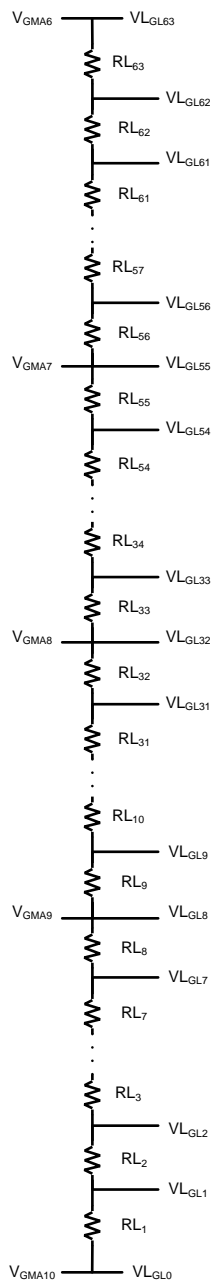

Figure 4. FPD33584A R-DAC Configuration
- Gamma A— Figure 4, Table 2, and Table 3